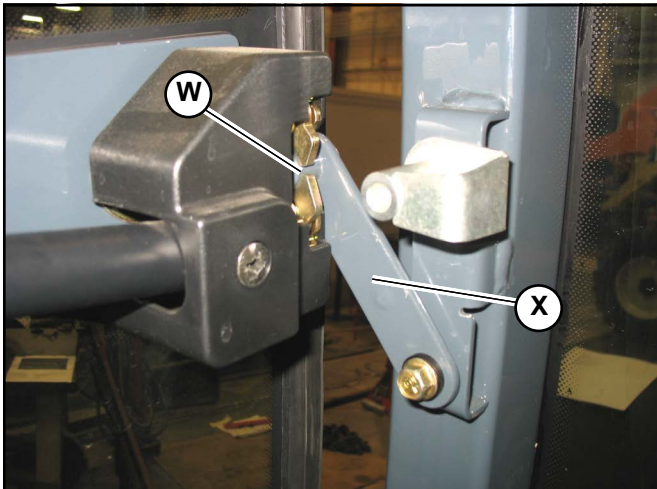

Fig. 65 – Door Prop
The cab door can be propped open for ventilation using link (X, Fig. 65). Rotate link (X) so tab (W) fits into the door latch.